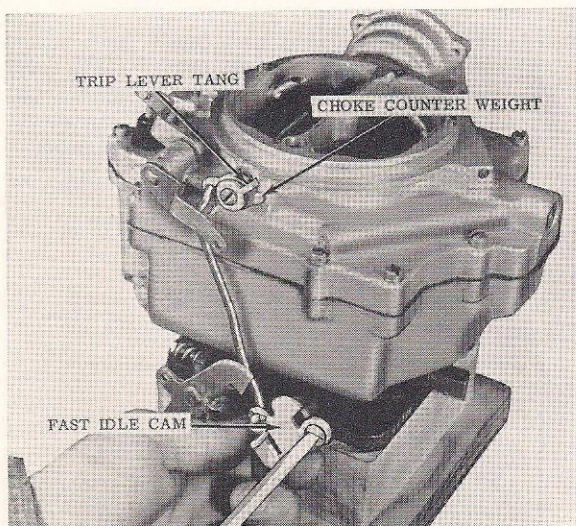

Figure 7-10
10. Remove fast idle cam attaching screw. (Figure 7-10.) Then remove choke lever and collar assembly, choke rod, and fast idle cam as an assembly.